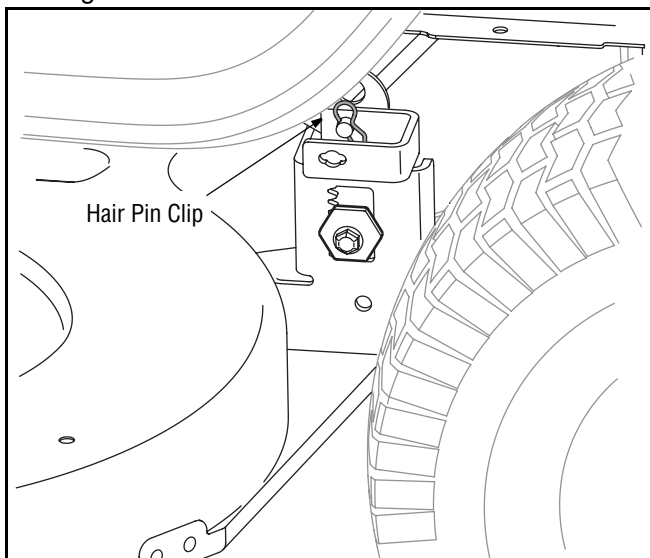

Figure 15
- Looking at the cutting deck from the left side of the tractor, locate the hair pin clip that secures the deck support rod on the rear left side of the deck. See Figure 15.